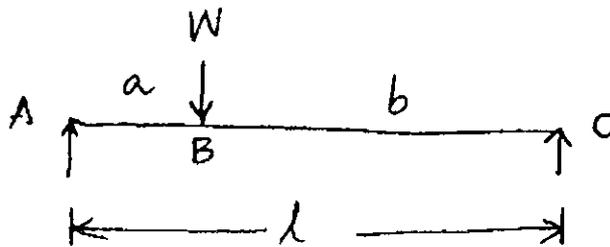

Fig. Q 13 (a)
13. (a) Derive relations for slope at the supports and maximum deflections for the beam given in Fig.Q 13 (a). using Moment Area Method.